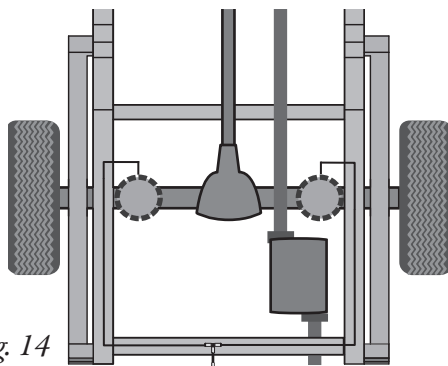

Fig. 14
1. A single-path air line installation is recommended for vehicles that typically have even weight distribution (Fig. 14). If weight in the vehicle varies from side to side and unequal pressures are needed to level the load, use a dual-path installation. For dual-path air line installations, eliminate the tee fitting (I) and route separate air lines for both air springs (Fig. 15).